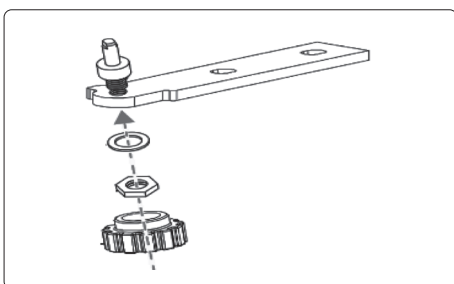

fig.6
- 7. Install the washer and nut into the hole on the pin shaft, and then install the adjustable foot (fig.6).